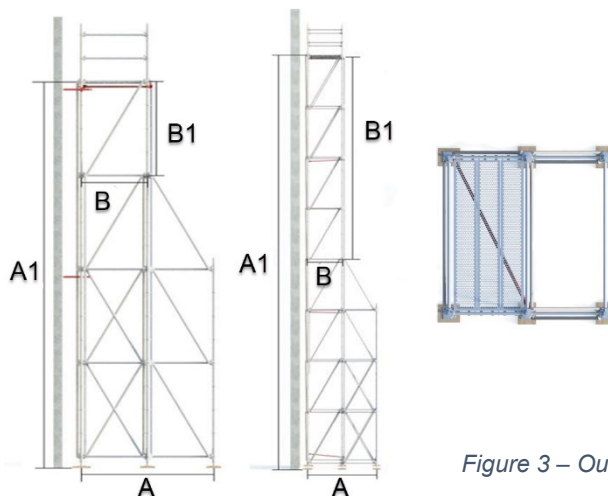

Figure 3 – Outrigger/ buttress bay
2.2.1. In Figure 3, the total height of the scaffold A1 shall not exceed four times the total base A, the same way that the top portion of the scaffold (B1) above the buttress/outrigger shall not exceed four times the non-buttressed width (B). In other words, buttress/outrigger is only required to increase base dimension until upper portion (B1) is within the 4:1 ratio of the minimum base width (B) and the total base of the scaffold A1 shall not exceed four times total height A.